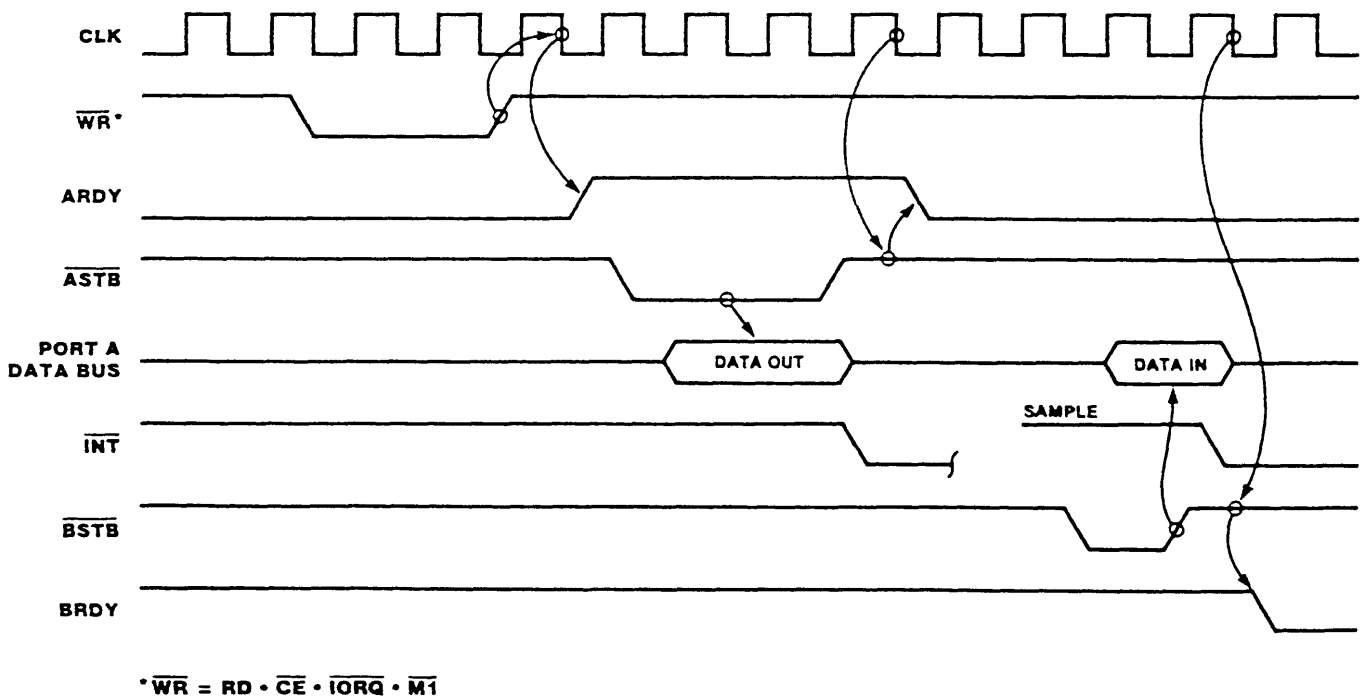

Figure 16. Mode 2 Bidirectional Timing
**Bidirectional Mode (Mode 2).** This is a combination Modes 0 and 1 using all four handshake lines and the eight Port A I/O lines (Figure 16). Port B must be set to the input mode and its inputs must be masked. The Port A handshake lines are used for output control and the Port B lines are used for input control. If interrupts occur, Port A's vector will be used during port output and Port B's will be used during port input. Data is allowed out onto the Port A bus only when  $\overline{\text{ASTB}}$  is Low. The rising edge of this strobe can be used to latch the data into the peripheral.